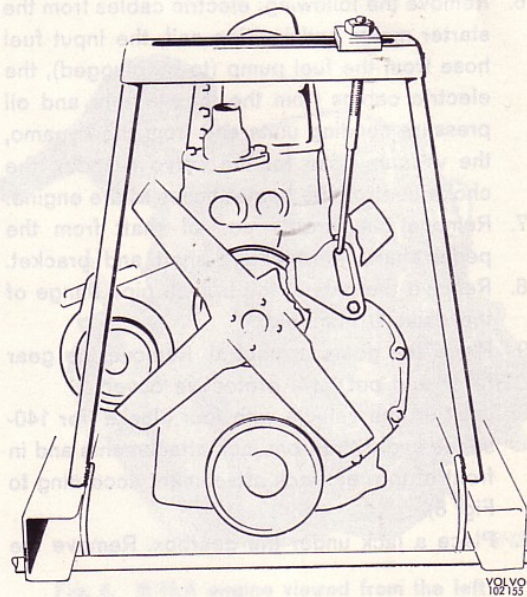

Fig. 11. Lifting tool SVO 2727
1. Fit the plate of the lifting tool SVO 2727 at the the upper bolt for the timing gear casing. Remove the washer.) Place the lifting tool and fix the hook in the plate according to Fig. 11. Raise the front end of the engine until there is no weight on the engine mountings. Remove the oil dipstick.